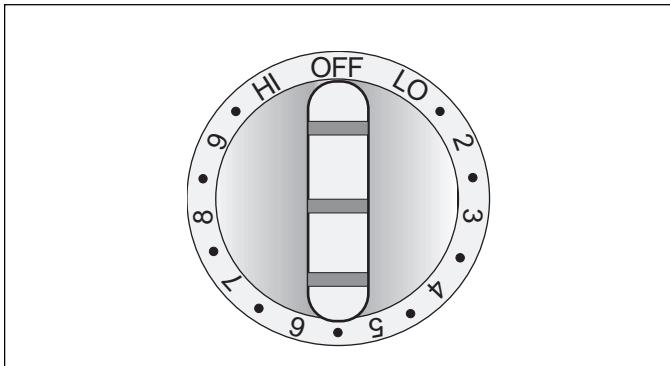

Figure 8
1. Push down on control knob and turn to desired setting. (Figure 8)